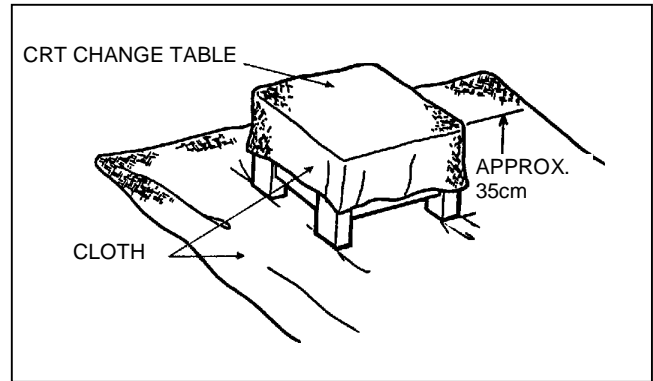

Fig. 4
1. Prepare the CRT change table, the CRT change table should also be covered with such soft cloth as shown in Fig.4.
2. While keeping the CRT down surface, mount the TV set on the CRT change table as shown in Fig.4.